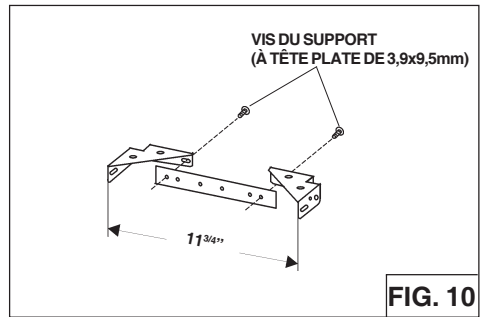

FIG. 10
1. Assemble the flue mounting bracket, adjusting outside width as shown. (Fig.10)